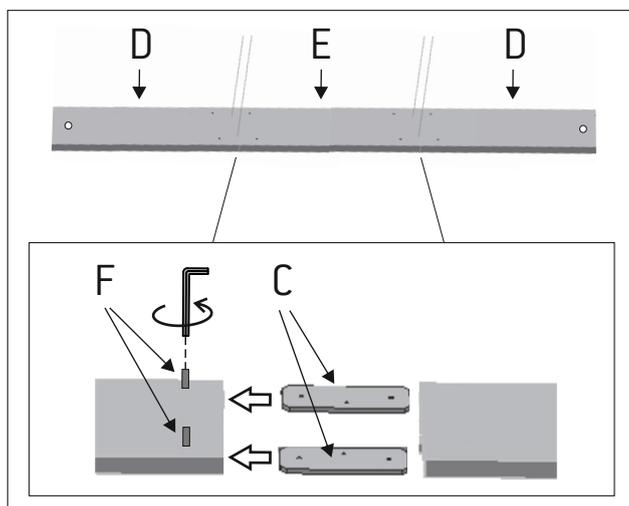

Figure 4
4 - Insert 2 of the metal pieces (C) into the tracks on the sides of the unit (D). The central holes have to go all the way inside. Keep in mind that the central track has no holes (E). First insert both pieces in one of the supports, aligning the holes and screwing the supplied studs (F) until they stop. Be gentle with the pressure. Do not over tight. Figure 4.